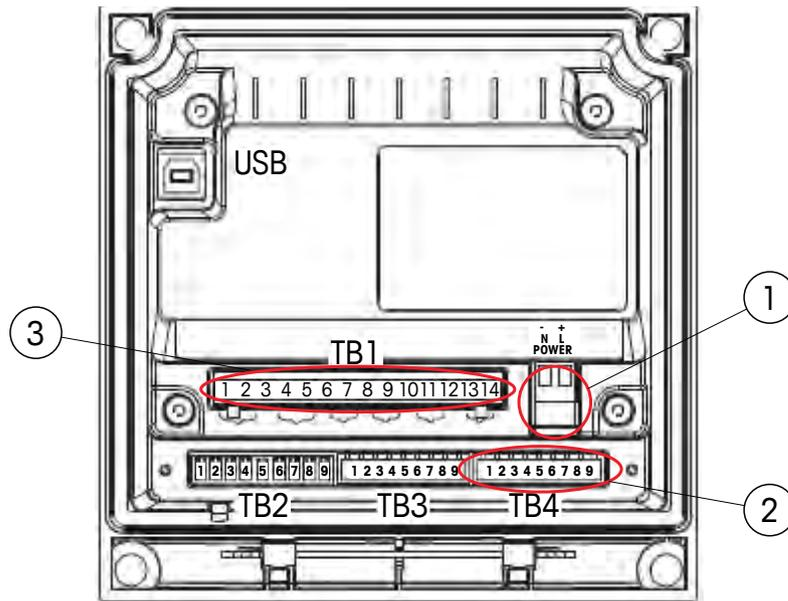

Figure 31 Cable connections in M400
- 2 Connect the wires in the supply cable to the appropriate electrical supply terminals in the M400 as follows and as shown in Figure 31 (Cable connections in M400) on page no 56.